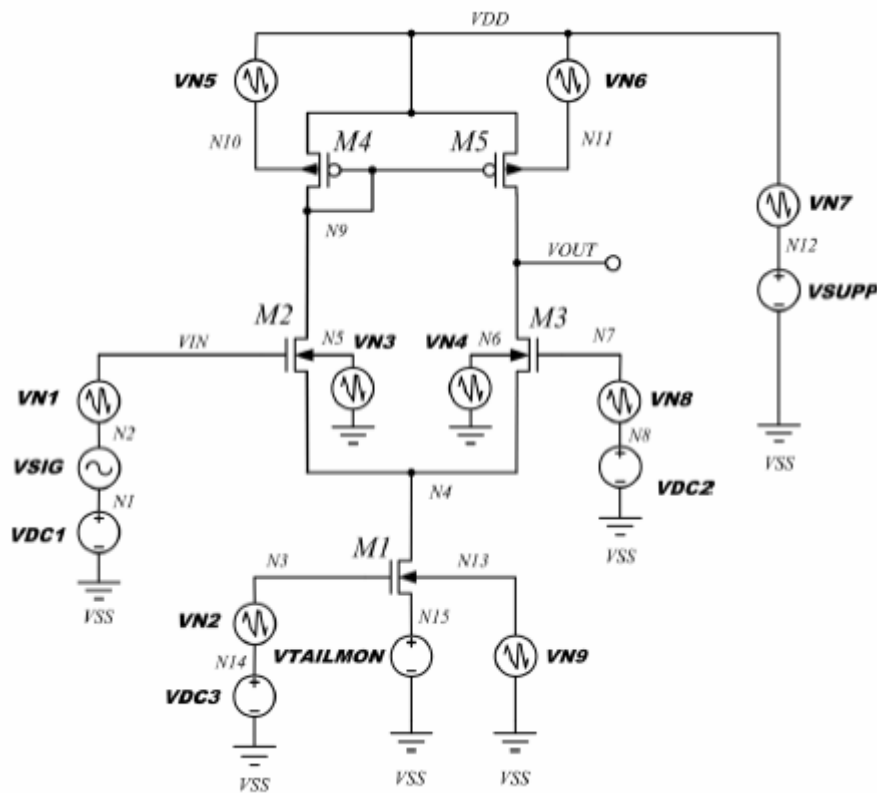

Fig. 3
7. The circuit shown in Fig.3 is designed for amplifying a weak single-ended voltage signal from an acoustic sensor. Spice code including the transistor model is also given below.